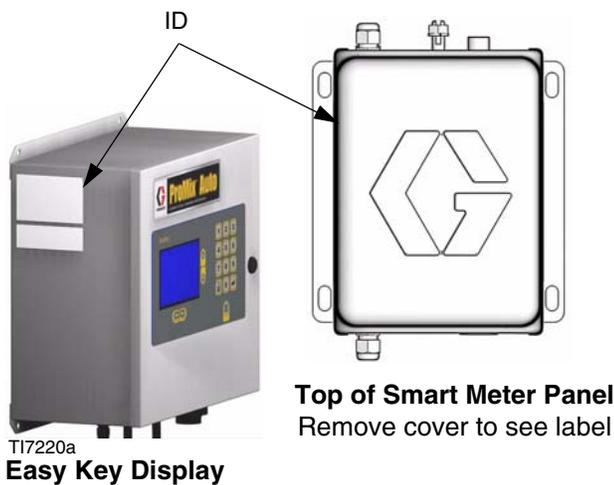

FIG. 5: EasyKey Display and Smart Meter Panel
<p>Do not install equipment approved only for non-hazardous location in a hazardous area. See the identification (ID) label (FIG. 5) on the EasyKey Display and Smart Meter Panel for the intrinsic safety rating for your model. Cover must be removed from Smart Meter Panel to see label. Refer to ProControl Models, page 4. Read warnings, page 5.</p>